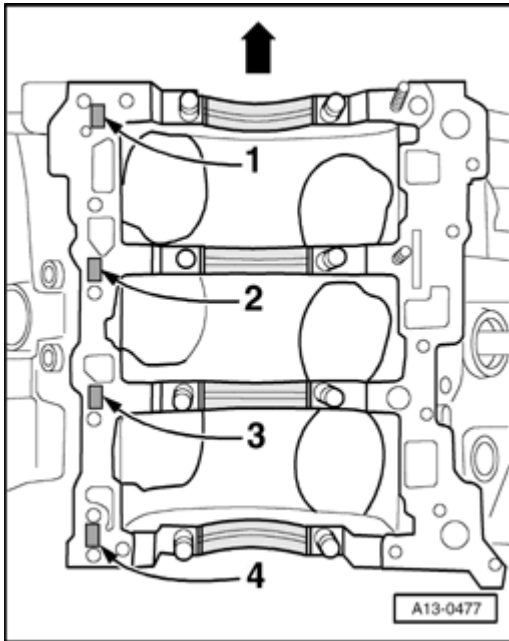

Fig. 184: Application Of Crankshaft Bearing Shells For Cylinder Block
- Insert new bearing shells for cylinder block with proper color marking. See **Fig. 184**